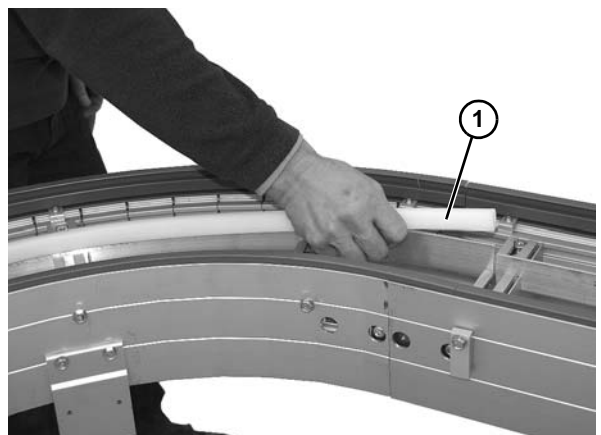

Figure 41
2. Remove top clip-on wear strips (Figure 41, item 1).